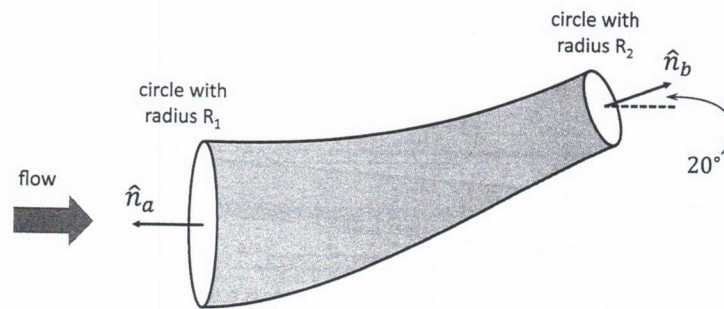

Figure 3.42
42. An incompressible fluid enters a converging bend flowing at a steady flow rate of Q gpm (Figure 3.42). The bend makes a 20-degree turn and has a circular cross section all along its length. At the inlet to the bend, the radius of the conduit is R_1 ; at the exit, the radius is a smaller value, R_2 . What is
47. Evaluate the convective term of the Reynolds transport theorem for the 20-degree bend-reducing fitting shown in Figure 3.42.